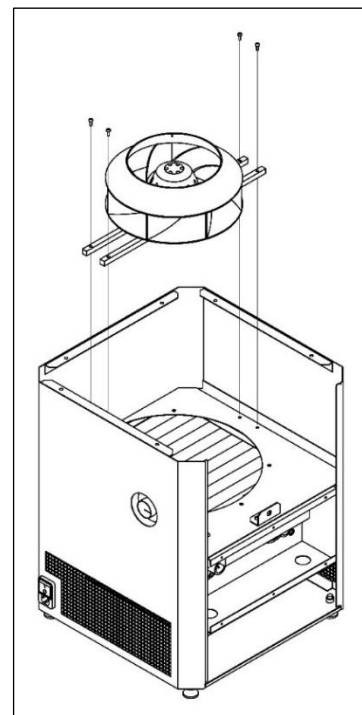

Figure 17
- 5.) Remove fan motor and motor bracket from the frame by loosening (4) screws with an Allen wrench. See Figure 17.
- 9.) Reconnect fan bracket to frame using (4) screws. Tighten with an Allen wrench. See Figure 17.